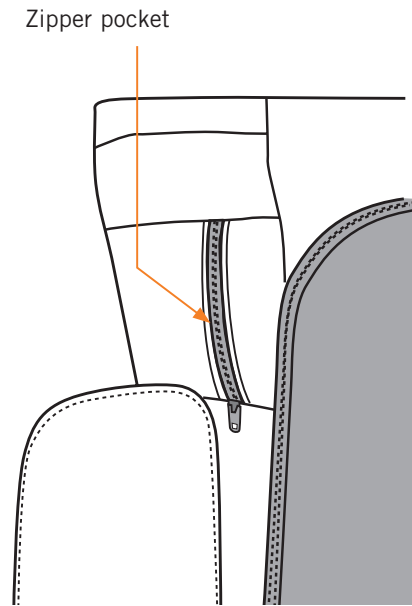

Fig.23
1. Locate the zippered pocket on the back of the body pad in the left shoulder area (Fig.23).